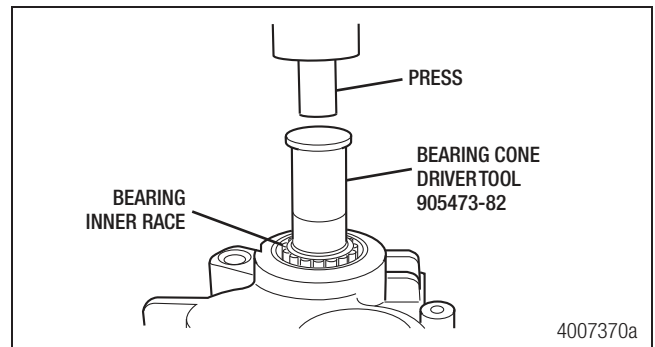

Figure 7.21
5. Use a bearing cone driver, tool number 905473-82, and a press to press the bearing down on the shaft until it is fully seated. Press only on the inner race of the bearing during installation. Figure 7.21.